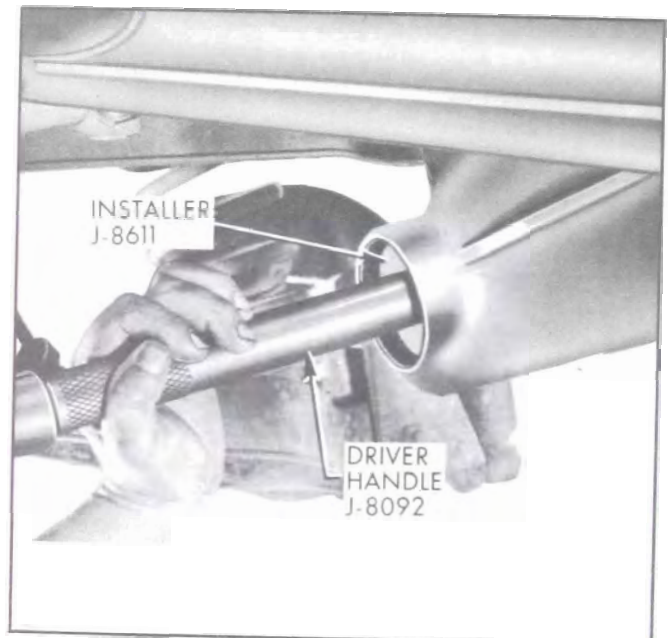

Figure 6-23—Installing Front Pinion Bearing Outer Race
2. If front pinion bearing is to be replaced, install new outer race using Installer J-8611 with Driver Handle J-8092. See Figure 6-23.